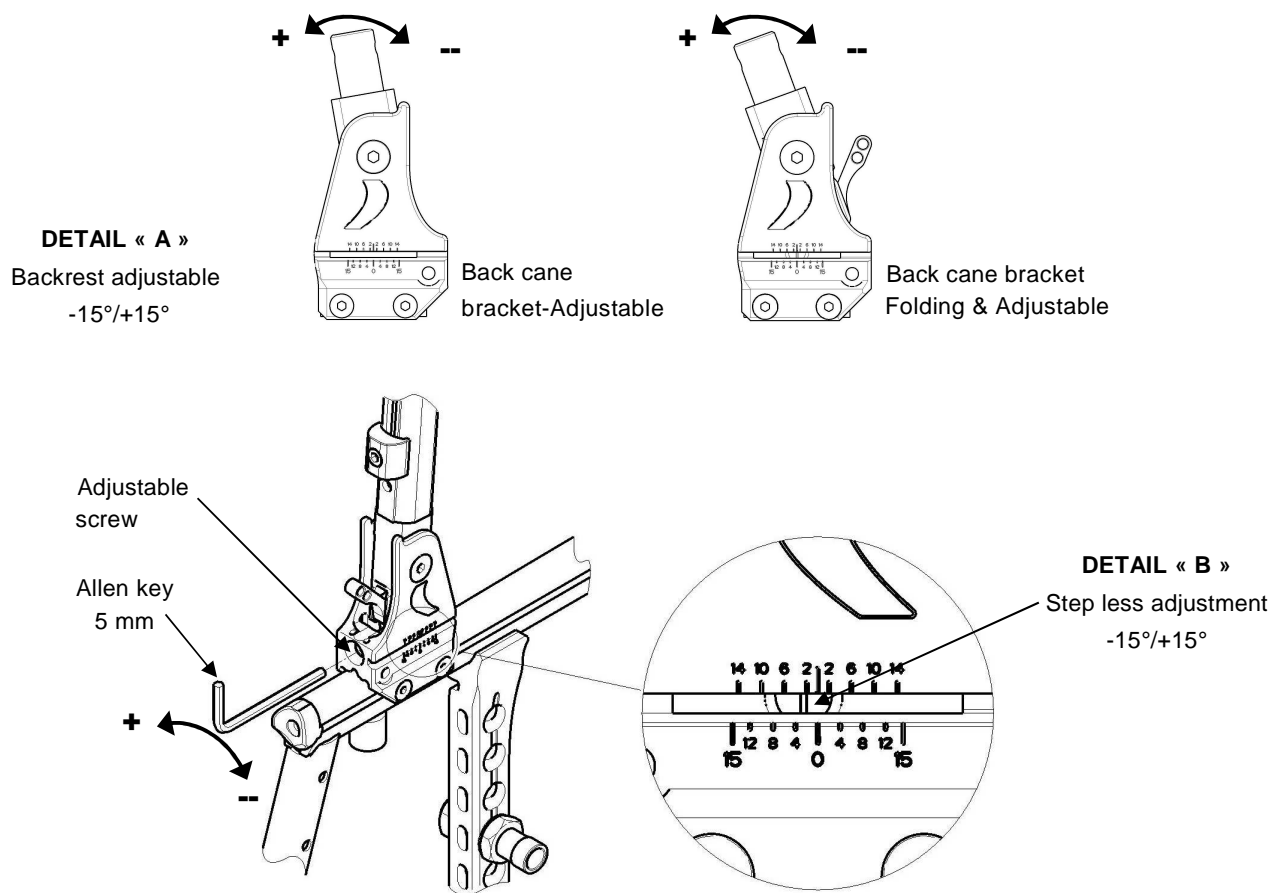

FIGURE 4.6 Adjusting the Backrest Angle
NOTE: For this procedure, refer to FIGURE 4.6.
2. Turn Allen key (5 mm) clockwise to obtain a negative angle.
3. Alternatively, turn Allen key (5 mm) under clockwise to obtain a positive angle.
4. Ensure both adjustment to the desired angle are equal on each side of the Back Cane Bracket. Refer to Detail "B" of FIGURE 4.6